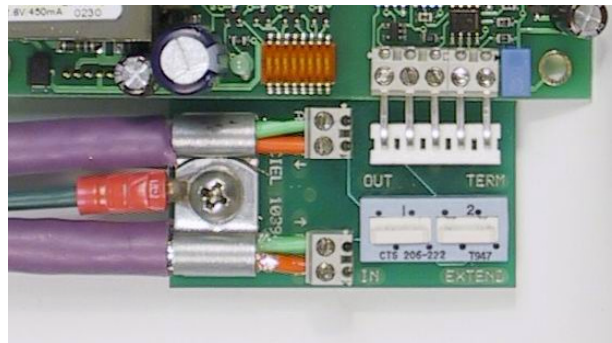

Figure 5 – mTB003 Connections
- Update Figure 5 to indicate OFF and ON
Connect either a potentiometer or an optical encoder as described in Figure 5. When used with an optical encoder, a fully closed limit switch is required to provide a zero reference point.